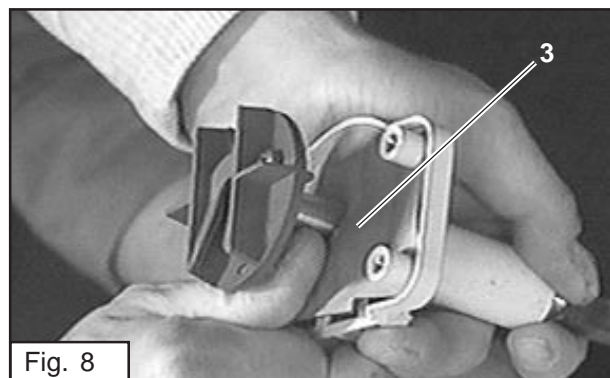

Fig. 8
- Loosen the sealing (3) and press the inner plate outside through the slots (4). A table edge facilitates this process. (Fig. 8, 9)